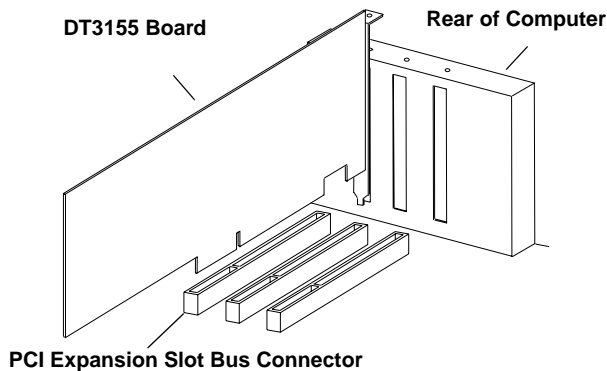

Figure 2: Inserting the DT3155 Board in the Computer
4. Position the board so that the cable connectors are facing the rear of the computer, as shown in Figure 2.